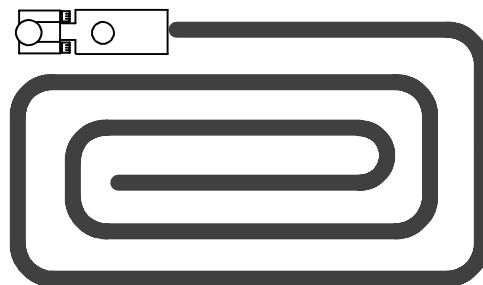

FIG. 10
2. Use a collapsing rectangle pattern when cleaning large rooms (Figure 10).